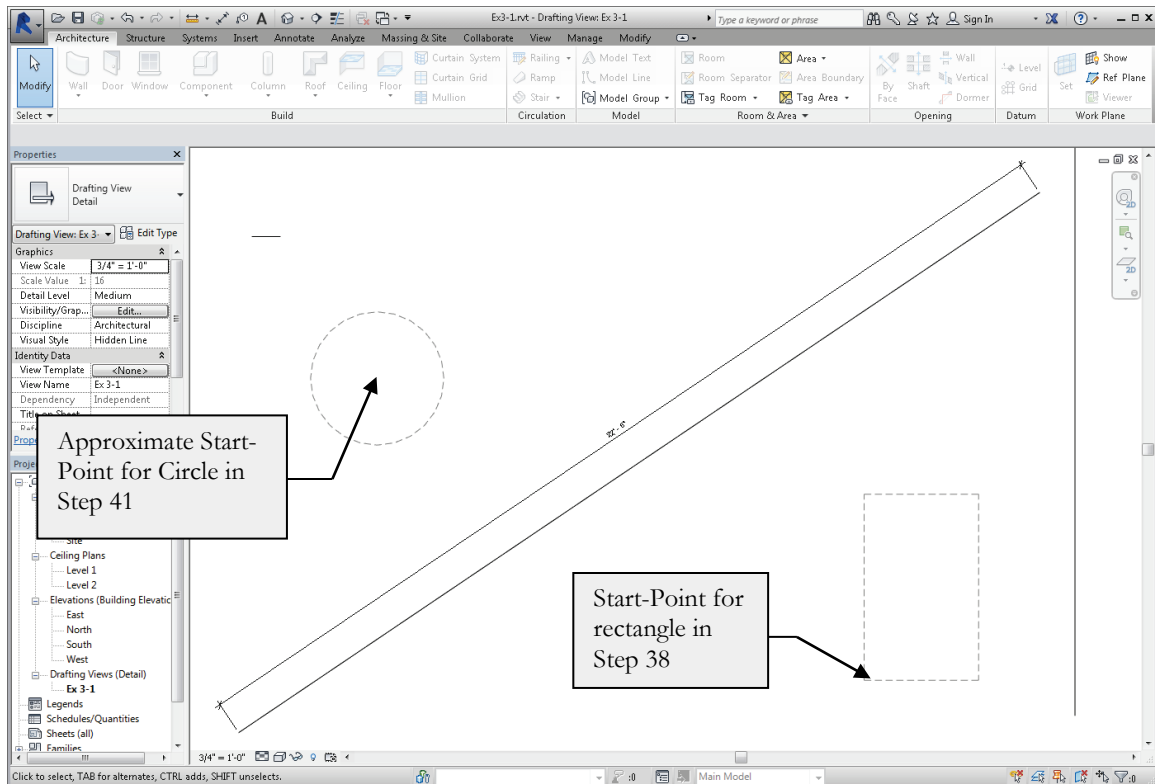

FIGURE 3-1.15 Drawing with Rectangle and Circle to be added (shown dashed for clarity)
38. Pick the “**first corner point**” somewhere near the lower center of the drawing window (Figure 3-1.15).
41. You are now prompted to pick the center point for the circle; pick a point approximately as shown in (Figure 3-1.15).